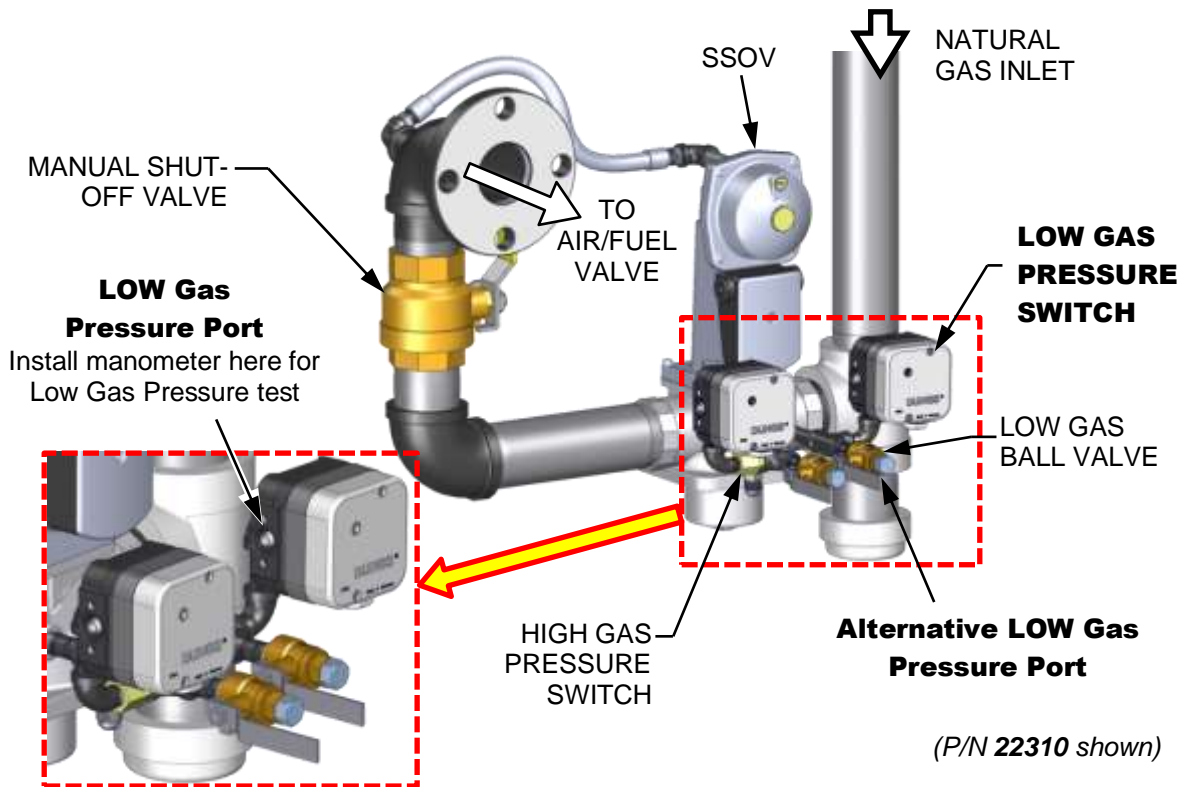

Figure 5-2a: – BMK3000 LOW and HIGH Gas Pressure Test Components
To simulate a low gas pressure fault on BMK3000 – 6000 units, refer to Figure 5-2a – 5-2c, below, and perform the following steps:
3. Locate the port on the top of the Low Gas Pressure switch and loosen the screw inside a few turns to open it. **Do not remove this screw completely.** Alternatively, you can remove the 1/4-inch plug shown in Figure 5-2a and 5-2b and install a hose barb fitting in that location.